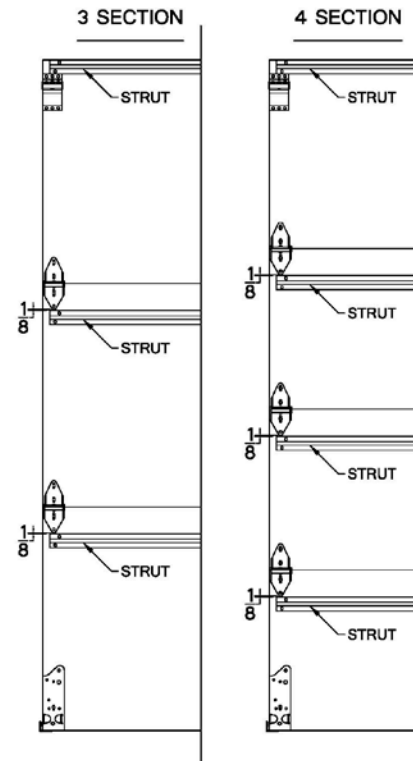

Figure 16
36. Starting with #1 (bottom) section, at bottom of the hinges that are attached between #1 and #2 section. Place top of strut 1/8" down from bottom of hinge centered in door. Predrill and attach using 1/4" x 20 x 1 1/4" lags. Repeats for all sections except for top. (Figure 16)